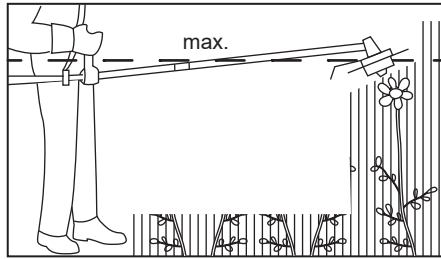

Fig. 18
4. Never hold the cutting head higher than your hip (Fig. 18), the higher you hold the cutting head will increase the risk of objects being thrown.